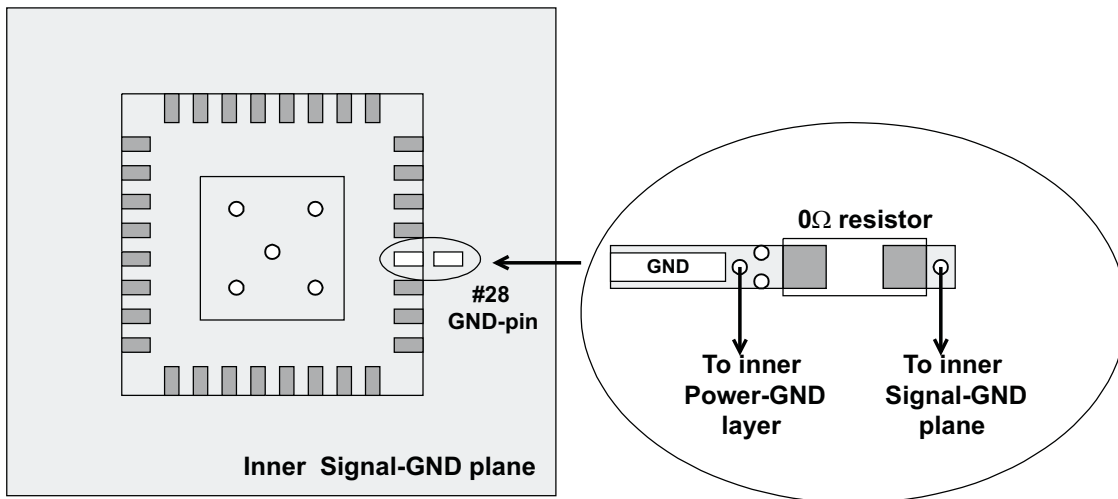

图 53. GND Layout Example
- Use signal GND for VREF2 and VREG3 capacitors, RF and VFB resistors, and the other sensitive analog components. Placing a signal GND plane (underneath the IC, and fully covered peripheral components) on the internal layer for shielding purpose is recommended. (See 图 53)
- Use power GND for VREG5, VIN and V_{OUT} capacitors and low-side MOSFETs. Power GND and signal GND should be connected near the device GND terminal. (See 图 53)